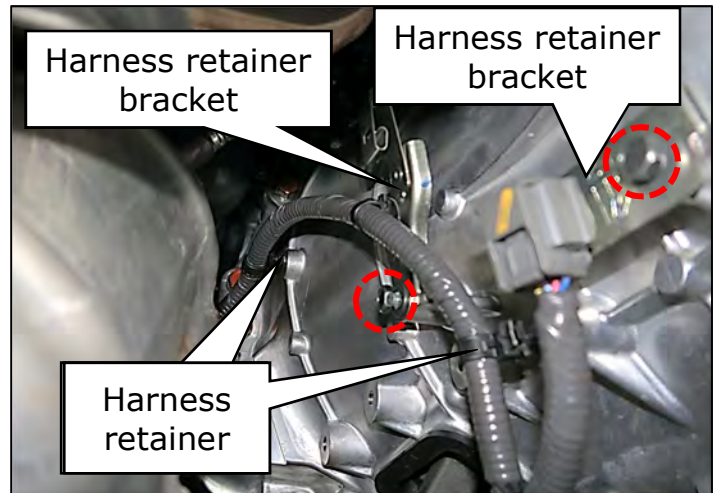

Figure 93
92. Route the wiring harness as shown in Figure 93.
- Start the bolts for the 2 harness retainer brackets shown in Figure 93